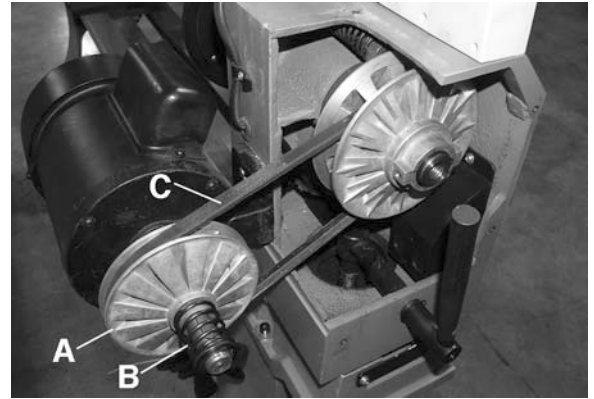

FIGURE 16
2. Pull the side pulley (A) Fig.16 towards the spring (B) with one hand and simply remove the V-belt (C) from the pulleys with the other hand.